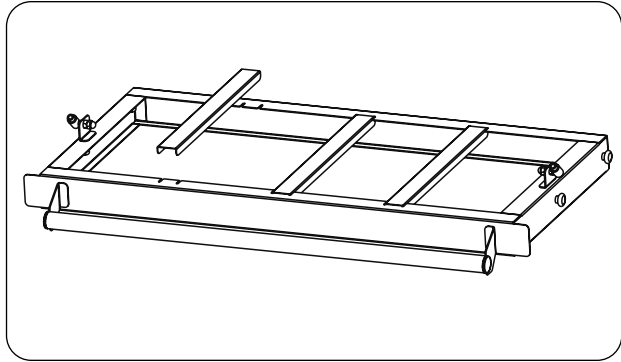

Figure 4. Installing Pan Dividers
4. The GRJW-3 and GRJW-4 series units are supplied with pan dividers. To install them, place the dividers in the channels provided. (See Figure 4.)